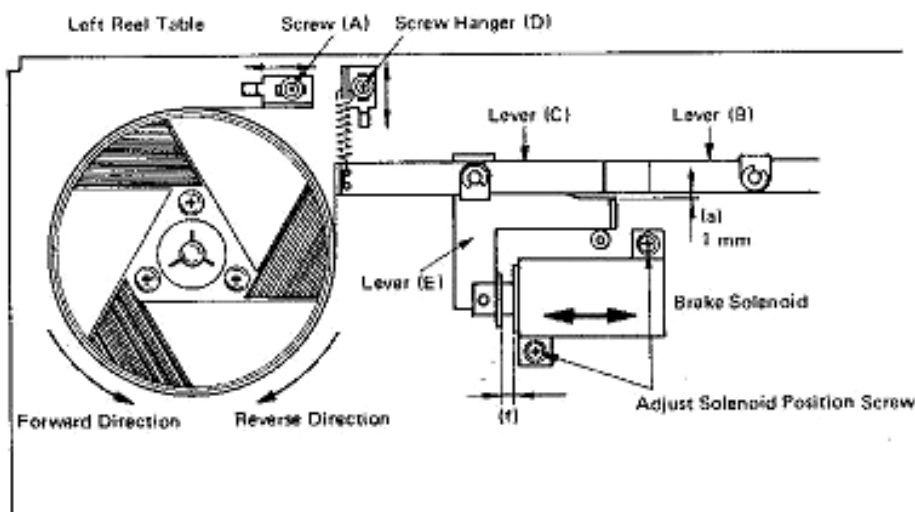

Fig. 2-2.
1. Screw (A) for the left brake (as viewed from the front) must be adjusted so that there is a clearance (a) of 1 mm between lever (C) and lever (E). Screw (A) for the right brake must then be adjusted so that lever (B) is parallel to lever (C). See Fig. 2-2.
- If the forward-direction torque is not correct, change the hooking position of the spring hanger (reference (D) in Fig. 2-2) for the corresponding brake requiring adjustment. If, after the forward-direction torque has been properly adjusted, the reverse-direction torque is not correct, or the forward-direction torque is still not correct, check to see if the brake felt pad is worn, and also check that the brake mechanism is properly aligned as explained in Section 2-4, "Brake Mechanism". If necessary, replace the entire reel table.